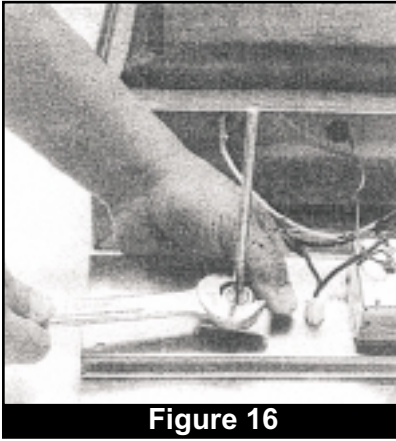

Figure 16
2. Use a crescent or standard 3/4" wrench to loosen the thermometer mounting nut that holds the thermometer in place on the back of the front panel. (Fig. 16)